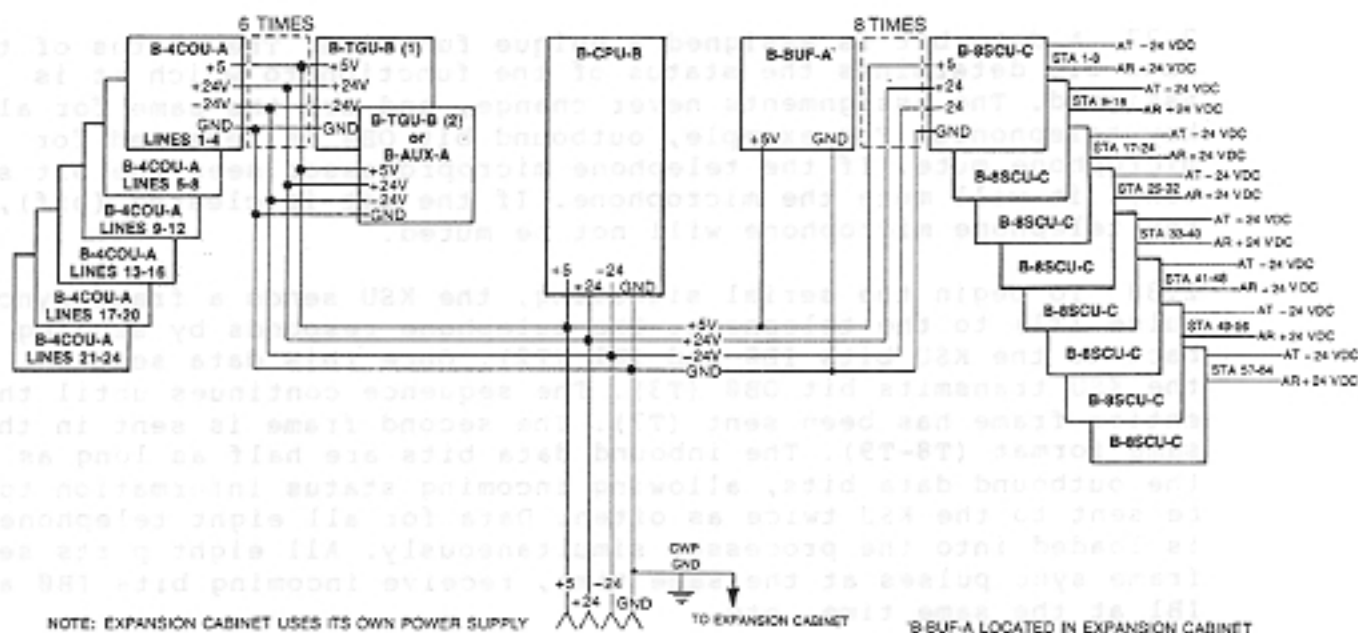

Figure 8-4 DC POWER DISTRIBUTION, TCX-128
2.31 DC power for the common equipment PCBs (Figure 8-4) is provided by a separate convection cooled power supply. The power supply produces regulated voltages of +5VDC, +24VDC and -24VDC. These voltages are connected in the KSU backplane to all the PCBs, excluding the B-BUF-A PCB. The B-BUF-A PCB is connected to the +5VDC line only. Each PCB in the system uses additional on-board DC regulation to maximize circuit stability and reliability.